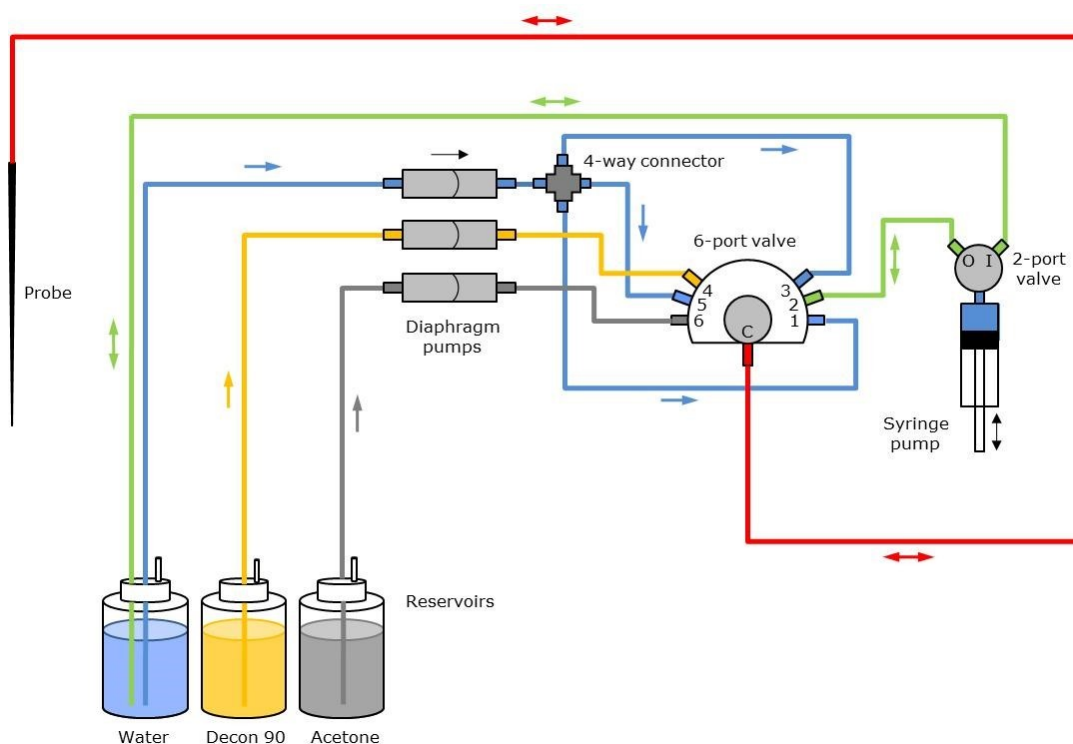

Figure 13: Schematic of the flow system upstream of the probe
A schematic of the flow system upstream of the probe is shown in Figure 13.
In Figure 13 the *control* flow line is shown in green and the three *cleaning* flow lines in blue (water), yellow (detergent) and gray (organic solvent). The line common to the control and cleaning circuits is shown in red. The connectors on the autosampler use the same color convention.
Sample aspiration and dispensing are controlled by the syringe pump in the upstream flow system. The control system is shown in green and red in Figure 13 and is bi-directional. The syringe-pump valve opens to the water reservoir when set to I. Water is collected from the reservoir on the syringe downstroke, for the upstroke the syringe pump valve switches to O, and the 6-port valve to 2, and the water is passed into the control line, shown in green in Figure 13. In this way the direction of flow and amount of water in the line can be controlled.
The cleaning fluid flow lines are shown in blue (water), gray (volatile, water miscible organic solvent) and yellow (detergent) in Figure 13. The line shown in red is common to the control and cleaning fluids. Usually the solvent is acetone, and the detergent a 10% solution of Decon 90 (non-US countries) or Contrad 70 (US).